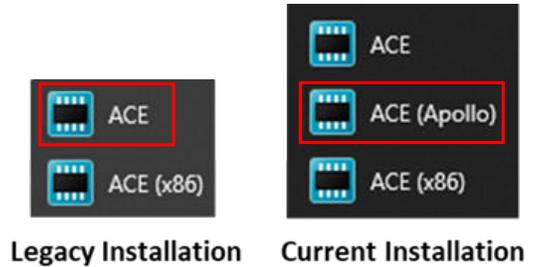

Figure 15. Starting the ACE Software
- Click **ACE (Apollo)** to start the ACE Software when it appears in the Windows Analog Devices **Start** menu. If **ACE (Apollo)** does not appear, click **ACE** (see Figure 15).